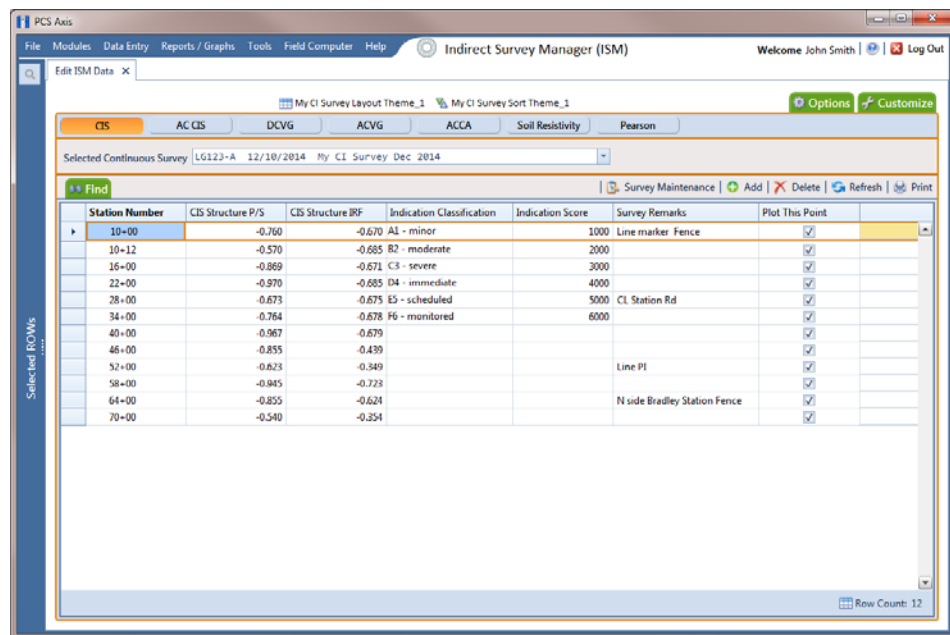

Figure 7-76. Edit ISM Data
- 3 Click **Data Entry > Edit ISM Data** to open the ISM data entry grid. Then click a button labeled with the type of continuous survey data you want to work with, such as the **CIS** button  (Figure 7-76).